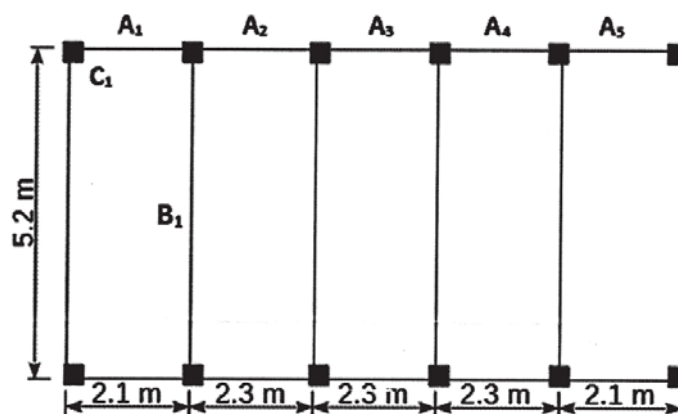

Fig. 1
**Q2) a)** Figure 1 shows the floor plan of a building. The beams are of size 230 mm  $\times$  450 mm. Beam  $B_1$  is reinforced with 4-16# bars in tension and 2-10# in compression. The load on the slab is  $6 \text{ kN/m}^2$ . Design the beam for shear. Adopt M-25 grade of concrete and Fe-500 grade of steel. Sketch the details of reinforcement. **[14]**
- Q3) a)** For the floor plan shown in Fig. 1, design the continuous beam  $A_1-A_2-A_3-A_4-A_5$ . The total load on the slab is  $5.5 \text{ kN/m}^2$ . Design the beam using M-20 grade concrete and Fe-500 grade of steel. Sketch the details of reinforcement. [15]
- b)** For the floor plan shown in Fig. 1, design column  $C_1$ . Show how the column is oriented, The column is subjected to working load of  $700 \text{ kN}$ , working moment of  $90 \text{ kN-m}$  about major axis bisecting the depth of column. The unsupported length of column is  $4.0 \text{ m}$ . The column is fixed at both the ends. Show detailed design calculations and reinforcement details. Use M-30 grade concrete and Fe-500 grade of steel. [14]